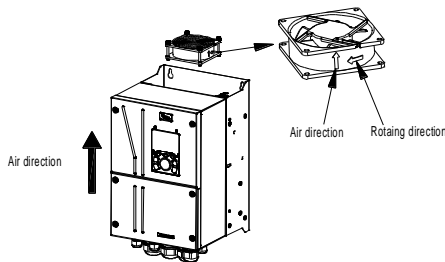

Figure 8-1 Fan maintenance for VFDs of 7R5G/011P or higher
5. Install a new fan in the VFD in the reverse steps. Assemble the VFD. Ensure that the air direction of the fan is consistent with that of the VFD, as shown in the Fig 8.1.